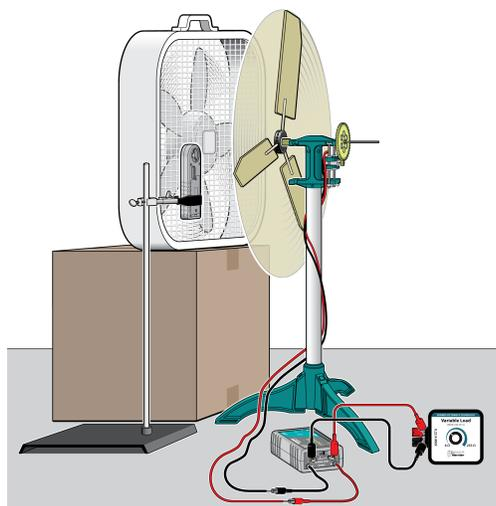

Figure 2
- b. Position the equipment as shown in Figure 2. Set the blades at 15°. Align the center of the fan with the center of the wind turbine hub. Measure the distance between the fan and the turbine hub and ensure that the distance remains constant throughout the experiment.